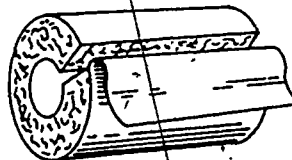

Figure 51. Wool Felt Pipe Covering
**WOOL FELT.** Wool felt is made of matted fibers of wool, or wool and fur or hair, worked into a compact material by pressure rolling. It is used on cold water service and hot water return lines. Wool felt preformed pipe covering is manufactured in thicknesses of 1/2 to 1 inch with a canvas jacket (see figure 51). It is manufactured in three-foot lengths to accommodate straight runs of piping.
Pipe coverings illustrated in figures 51 and 53 indicate some of the types of covering available to the plumber today. These coverings are quickly and easily installed because each section is split in half and has a canvas cover with flap for quick sealing. Joint collars are furnished to cover joint seams on insulation exposed to outside conditions.